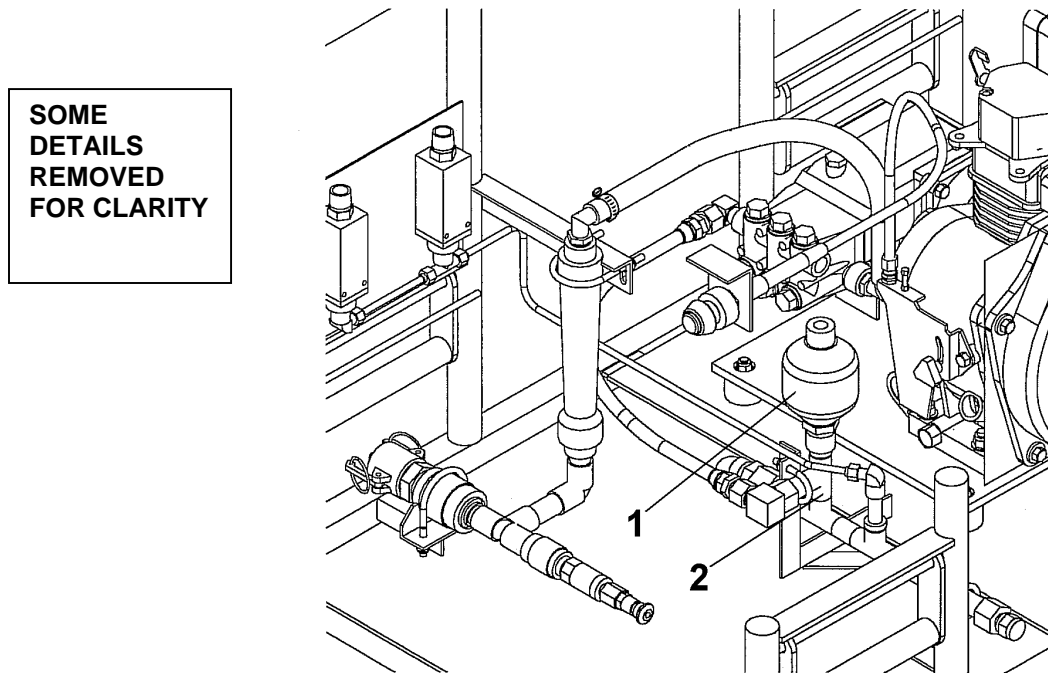

Figure 2. Pulsation Dampener.
Remove pulsation dampener (1) by unthreading from tee fitting (2). See Figure 2.
1. Refer to Figure 2 for this procedure section.
2. Thread pulsation dampener (1) securely onto the tee fitting (2).